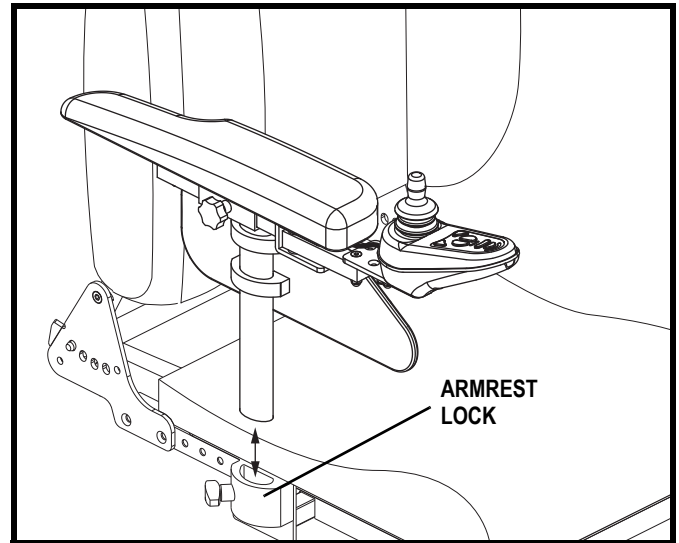

Figure 16. Armrest Removal/Installation
1. Place the armrest assembly into the armrest lock. See **figure 16**.